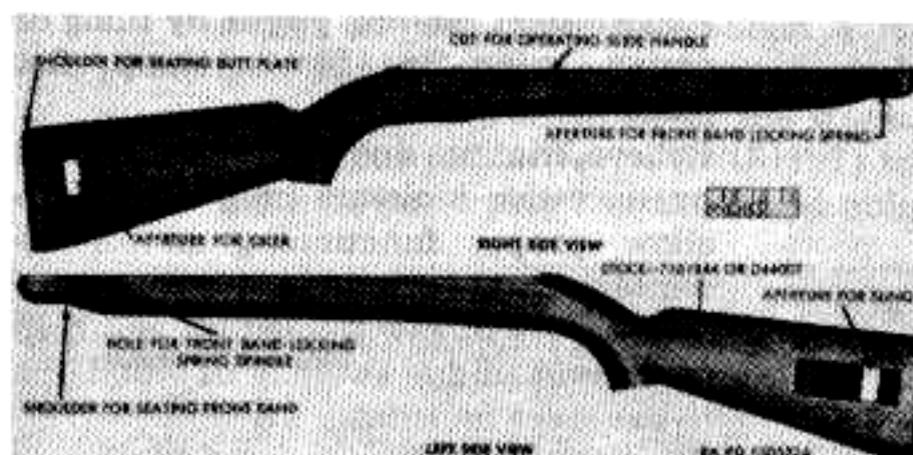

Figure 95. Stock showing apertures — carbine M1.
a. Stock. Inspect stock for cracks, scoring, chipping, blemishes, and excessive dryness. Inspect cuts and apertures (Fig. 95) for chipping and burrs, for wear due to interference with moving parts, and for excessive friction in assembling.
- (1) Inspect butt plate for deformation, burrs, fit, and looseness on stock. Check butt plate screw for looseness and check threads in stock for stripping. The butt plate screw must fit firmly in stock.
- (2) Protrusion of butt plate beyond edge of stock is acceptable in rebuilt weapons unless more than approximately one-half of the thickness of the metal extends beyond the edge of the stock.
(c) Point on right side of stock and hand guard where operating slide bar passes through to right side of receiver (Fig. 95).